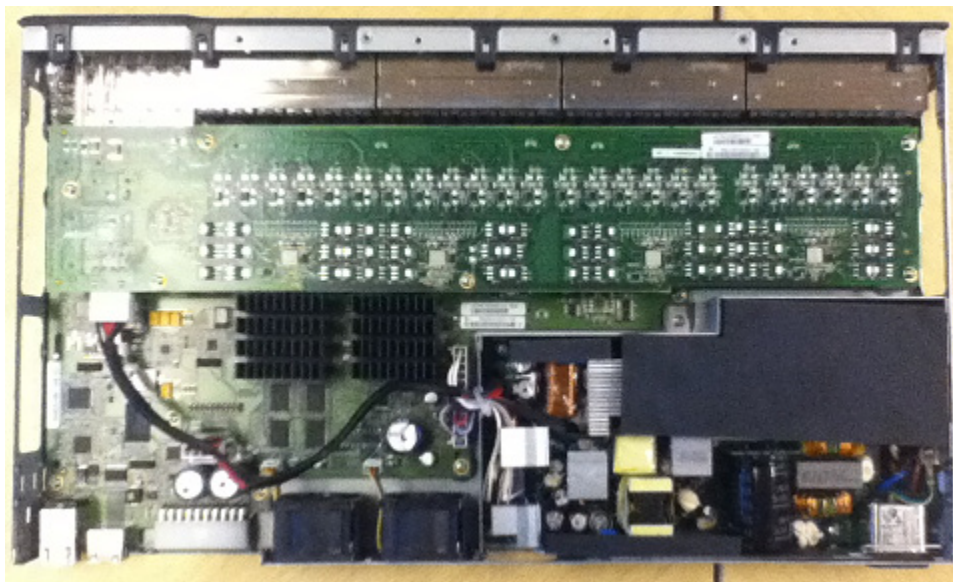

Figure 3-5: EX2200 Open Chassis
5. Remove the top of the chassis (Figure 3-5)